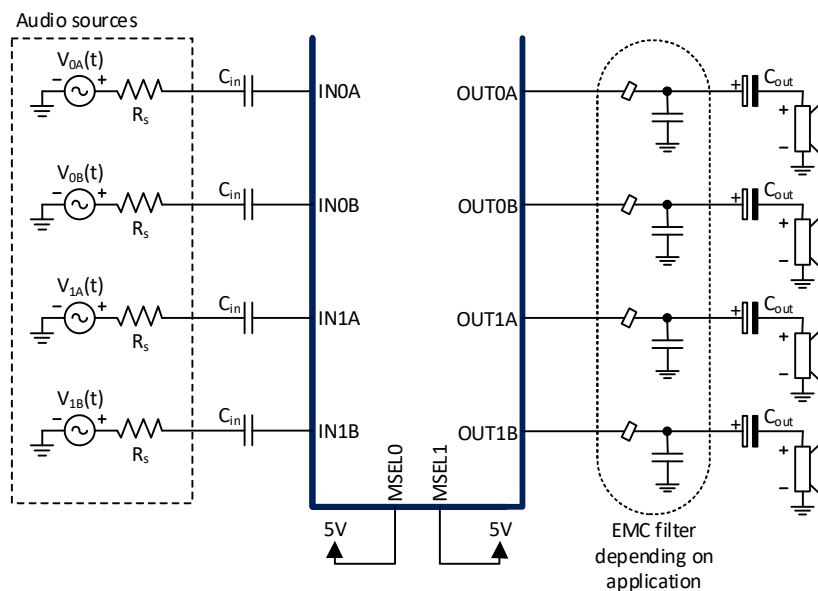

Figure 9-3 Four channel, single ended (SE) configuration
In single ended (SE) configuration, the MA12070 is able to drive one loudspeaker per output power stage, i.e. up to four loudspeakers. The output is biased to half the power supply voltage,  $\frac{1}{2}$  PVDD. One of the solutions to drive a speaker in this configuration is to use AC-coupling capacitors ( $C_{out}$ ) in series with the load, as shown in Figure 9-3. The value of the capacitors depends on the load resistance and the desired audio bandwidth.